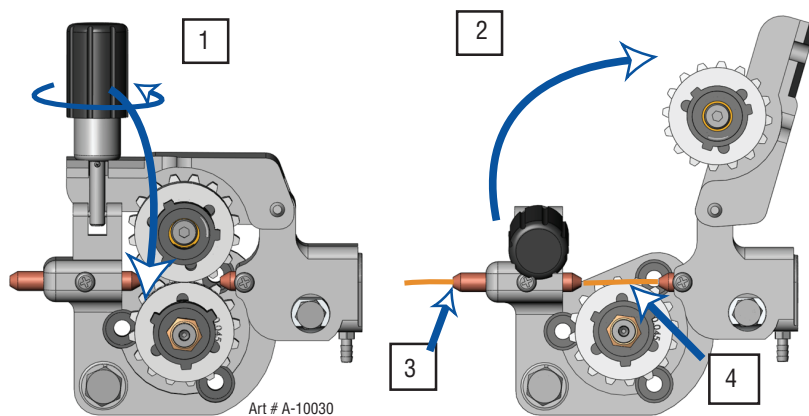

Figure 3-11: Opening Pressure Arm and Inserting Wire
1. Loosen the Spring Pressure Adjusting Knob if needed and swing it down (First part of Figure 3-11)
2. Move the Pressure (top) Roller Arm by swinging it to the right. (Second part of Figure 3-11)
3. Make sure the end of the wire is free of any burrs and is straight. Pass the end of wire through the Inlet Wire Guide and over the Feedroll. Make certain the proper groove is being used. (Second part of Figure 3-11)